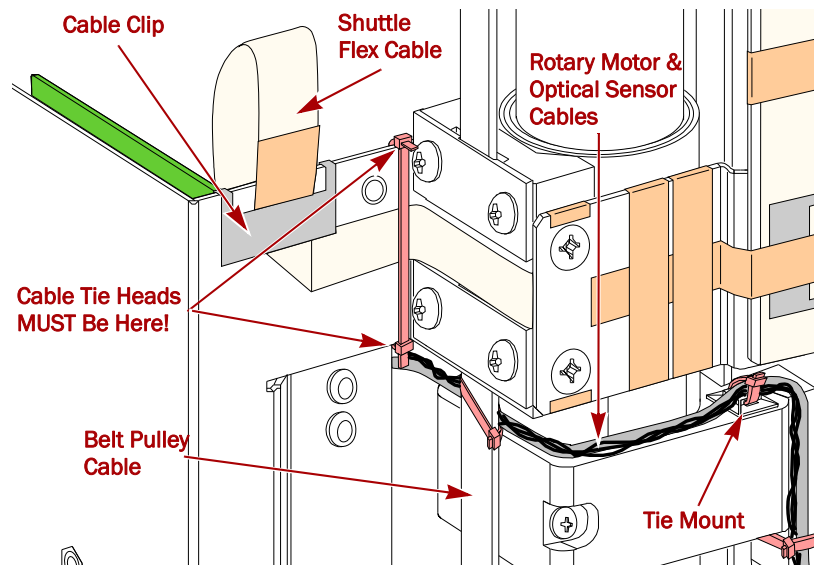

Figure 3-12: Securing the Cables with New Cable Ties
- c. Loop a **new 2.8" cable tie** around the belt pulley cable (where it attaches to the SMA) and **Rotary Motor and Optical Sensor** cables (Figure 3-12).